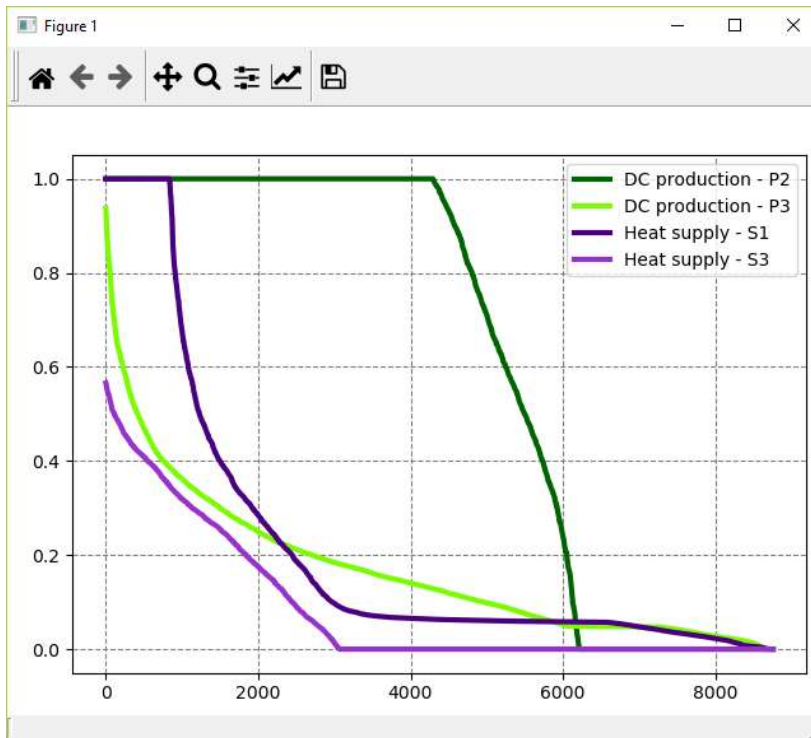

Figure 33. Duration curve window.
5. **Show duration curves** - button: this button launches a graph window (see Figure 33) illustrating hourly duration curves for DC producers and heat supply technologies.